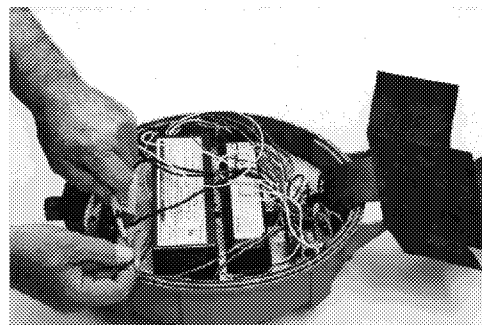

FIGURE 2
5. On N2MVFB series emergency luminaires, connect the emergency ballast connector (white/red wires) See figure 2. This is disconnected to avoid discharging the battery during shipment.